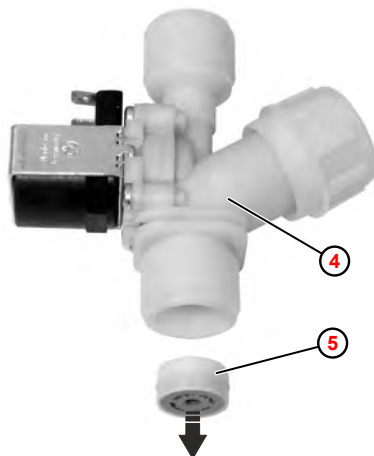

Fig. 63: Removing the quantity regulator
- ④ Solenoid valve
- ⑤ Flow regulator
4. ➤ If necessary, remove the quantity regulator ⑤ from the solenoid valve ④ using a suitable tool (e.g. scriber). This destroys the quantity regulator.
5.  **Fit a new** quantity regulator, making sure that it is in the correct position (Fig. 63).